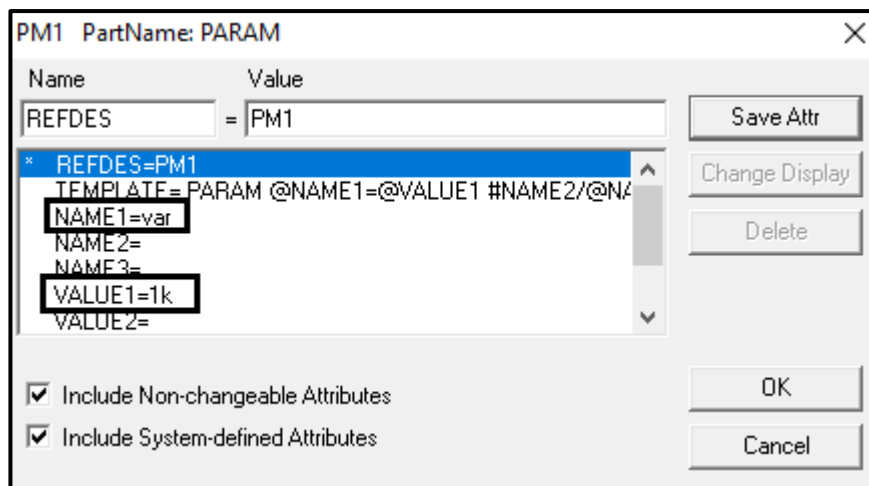

Figure.29
- Double click on “param”, and the window shown in figure.29 will show up, insert parameters as shown in figure.